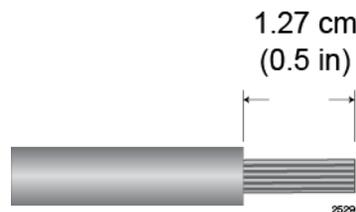

Figure 105. Stripping the Stranded Grounding Wire
1. Prepare an adequate length of stranded 10 AWG grounding wire by stripping it as shown in Figure 105.